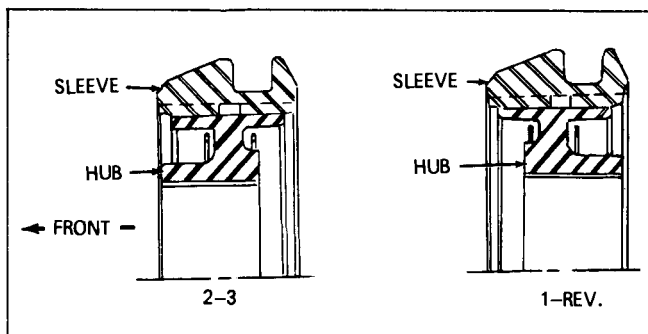

Fig. 7B-13 Synchronizer Sleeve and Hub Assembly
3. Install 1st & Rev. synchronizer assembly with fork slot up (Fig. 7B-13) and, making sure that notches of blocker ring align with keys of synchronizer assembly, press assembly onto splines of mainshaft until it bottoms out.